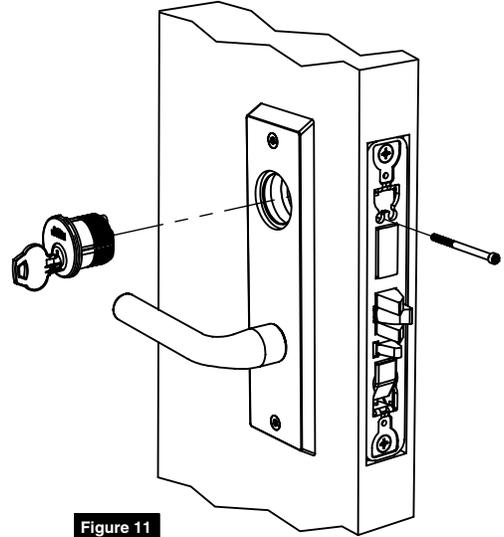

Figure 11
5. Install cylinder. Secure with cylinder set screw. (Figure 11)